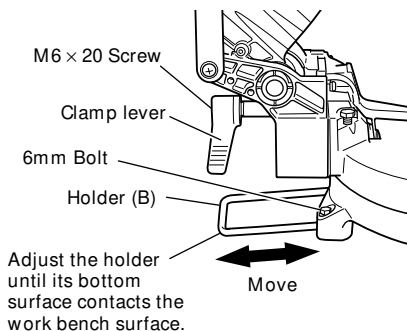

Fig. 6
3. Holder (B), clamp lever adjustment: (Fig. 6)
Attach the included holder (B) in the position as shown in Fig. 6 and adjust the holder (B) until its bottom surface contacts the work bench surface. After adjustments, securely tighten the 6mm bolt with the included 10mm box wrench. Loosen the M6×20 screw on the clamp lever and attach to a position where the clamp lever can be easily operated.